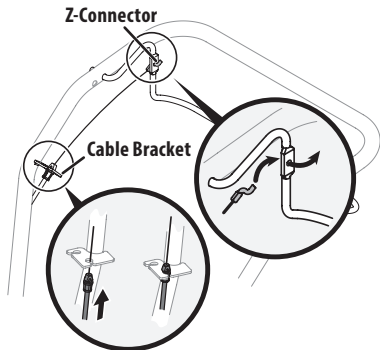

Figure 6
- Pull the forward clutch cable with the black end fitting up through the bottom hole of the cable bracket and push the cable connector up through the hole until the groove in the connector snaps into place. See Figure 6.
- Place the Z-connector into the hole in the forward clutch bail from the outside of the bail to the inside. See Figure 6 on page 6.